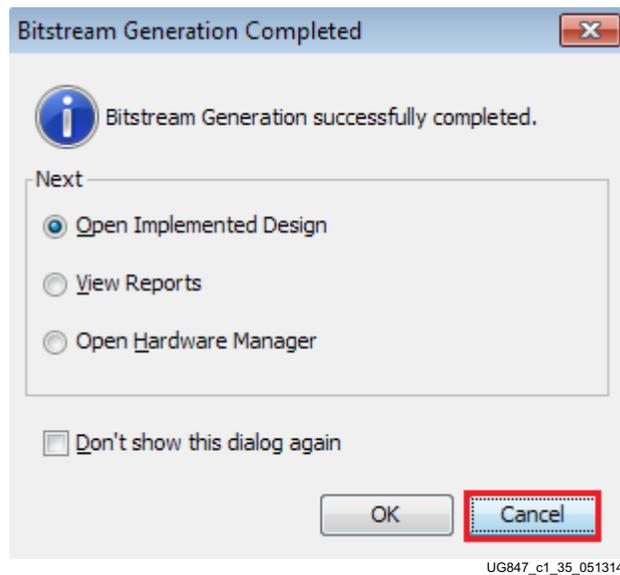

Figure 1-35: **Bitstream Generation Completed**
- When the Bitstream Generation Completed dialog window appears, click **Cancel** (Figure 1-35).